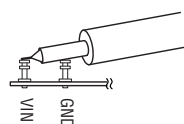

Figure 2. Measuring Input or Output Ripple
**NOTE.** When measuring the input or output voltage ripple, care must be taken to avoid a long ground lead on the oscilloscope probe. Measure the input or output voltage ripple by touching the probe tip directly across the VIN or LDO and GND terminals. See Figure 2 for proper scope probe technique.